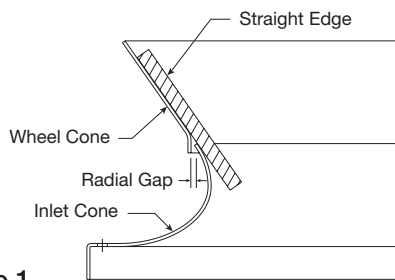

Figure 1
1. Rotate the fan wheel by hand and ensure no parts are rubbing. The wheel should rotate freely and be aligned as shown in Figure 1. Wheel position is preset and the unit is tested at the factory.
Alignment - If necessary, adjust wheel position by loosening the wheel hub (see Tapered Bushing Hub, Removal and Replacement, on page 7) from the motor shaft so that a straight edge held tight to the wheel cone just touches the inlet cone. Refer to Figure 1.
4. Adjust the axial location of the wheel in the fan relative to the inlet cone as shown in Figure 1, page 6. Then tighten the cap screws an eighth turn at a time in an alternating fashion and to a torque of 10 ft·lbs for QT bushings and 9 ft·lbs for SD bushings.